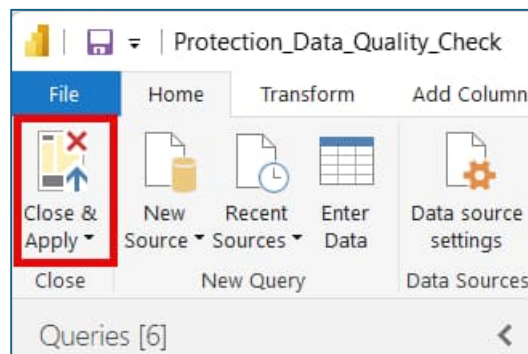

Figure 14: Close & Apply to read CSV files and populate visuals.
8. Finally, click the **Close & Apply** button – Power BI will now read the CSV files and populate the various visuals in the report. See Figure 14.